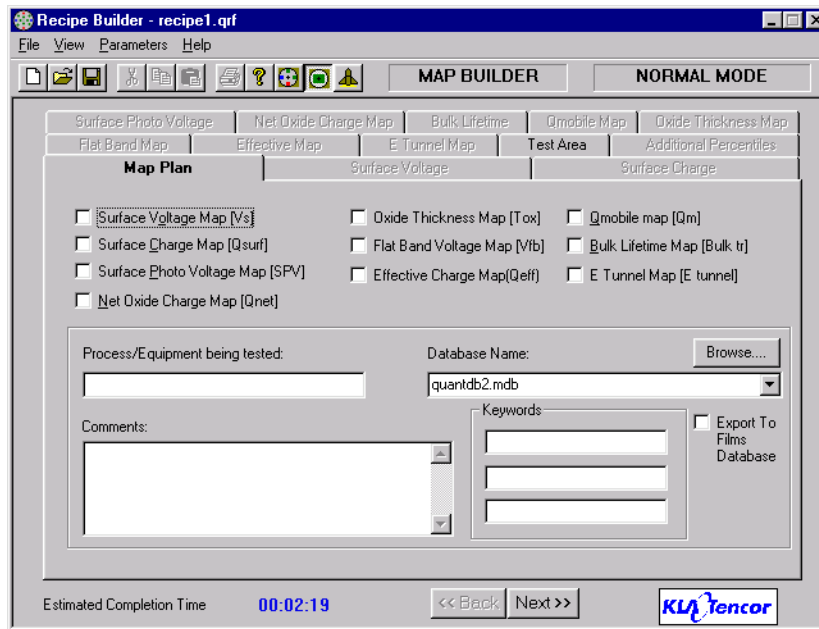

Figure 3-2: Recipe Builder, Map Plan
- The Map Plan (Figure 3-2) is used to define tests that measure a specific area of the wafer (map tests).